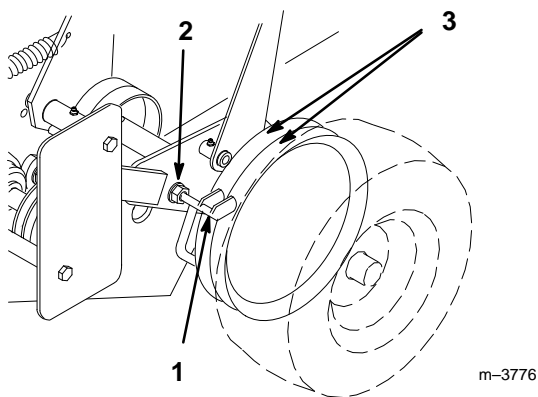

Figure 45
1. Loosen the locknut holding scraper to the engine frame (Fig. 45).
2. Rotate scraper until they align with center of pulley grooves (Fig. 45).
3. Tighten the locknut (Fig. 45).